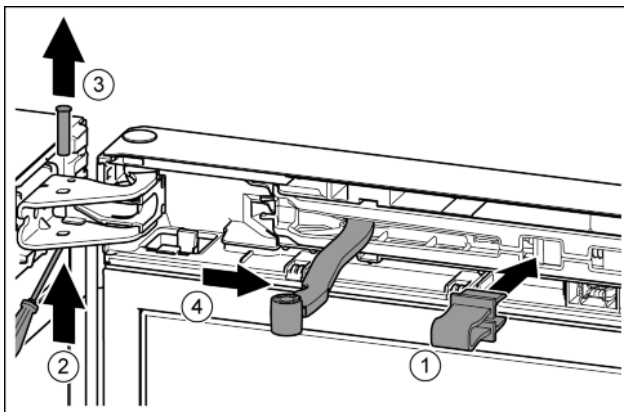

Fig. 9
- ▶ Engage the locking device in the opening. Fig. 9 (1)
- ▶ Unscrew the bolt with a screwdriver. Fig. 9 (2)
- ▶ Remove the bolt in an upward direction. Fig. 9 (3)
- ▶ Turn the hinge in the direction of the door. Fig. 9 (4)